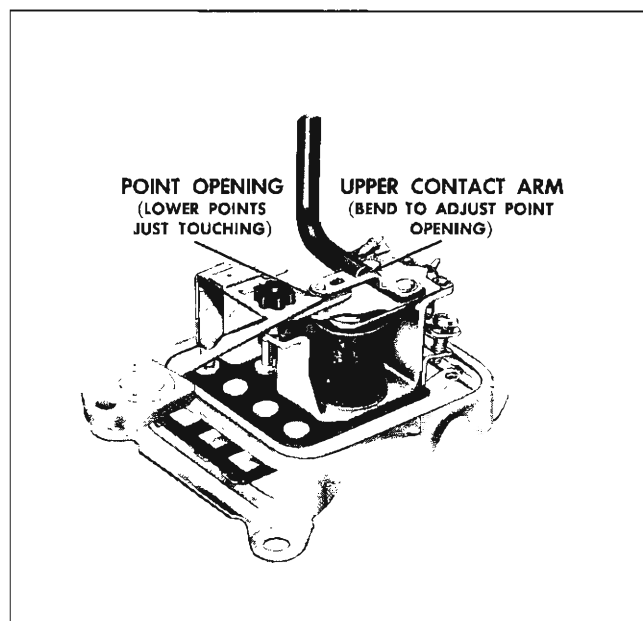

Fig. 11-37 Checking Point Opening
**Point Opening:** With the lower contacts touching, measure the point opening between the upper contacts as shown in Fig. 11-37. If necessary, adjust to .015" by bending the upper contact arm, being careful not to bend hinge.